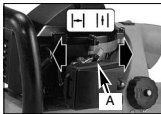

Fig. 3B
4. Your unit is designed with a 2 position choke: CLOSE "I-I" and OPEN "II". Move choke lever (A) to CLOSE "I-I" position (Fig. 3B).